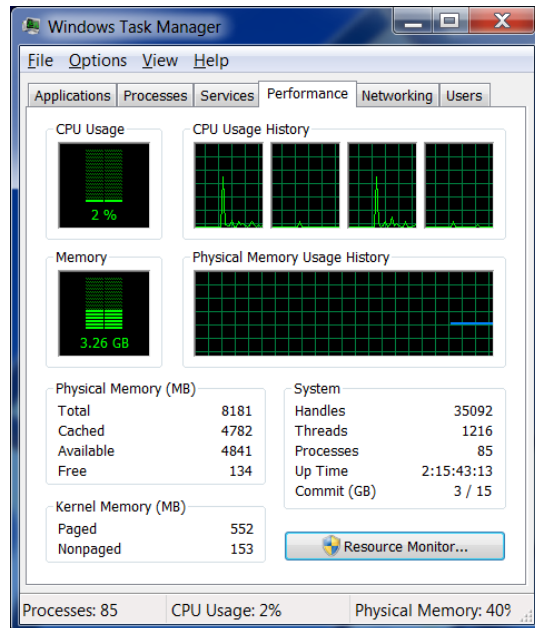

Figure 4: Determining how much memory is available for JVM heap size via Windows Task Manager
- **Max Heap Size:** This is the most significant of the memory options as it determines the maximum size models that could be loaded for processing. The default setting is 1024m (1GB), but for detailed mechanical-electrical-plumbing models a more robust setting may be required (2048m-4096m). The maximum amount of heap space you may allocate will depend on how much memory (RAM) is installed in your computer and how much is available for allocation. On a Microsoft Windows machine you may find this information in the Performance tab of Windows Task Manager. Figure 4 provides an example illustration of a task manager reporting 8181 MB of total memory (8 GB) and 4841 MB (> 4GB) of available memory.